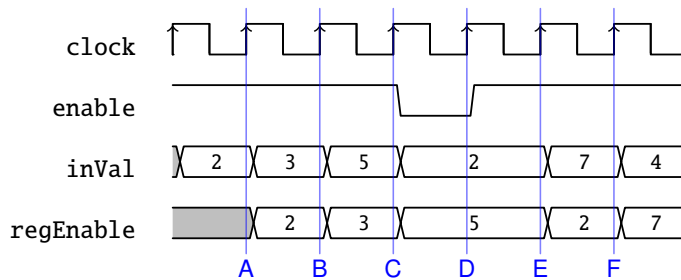

Figure 6.5: A waveform diagram for a register with an enable signal.
Figure 6.5 shows an example waveform for a register with enable. Most of the time enable is high (true) and the register follows the input with one clock cycle delay. Only in the fourth clock cycle enable is low and the register keeps its value (5) at rising edge D.